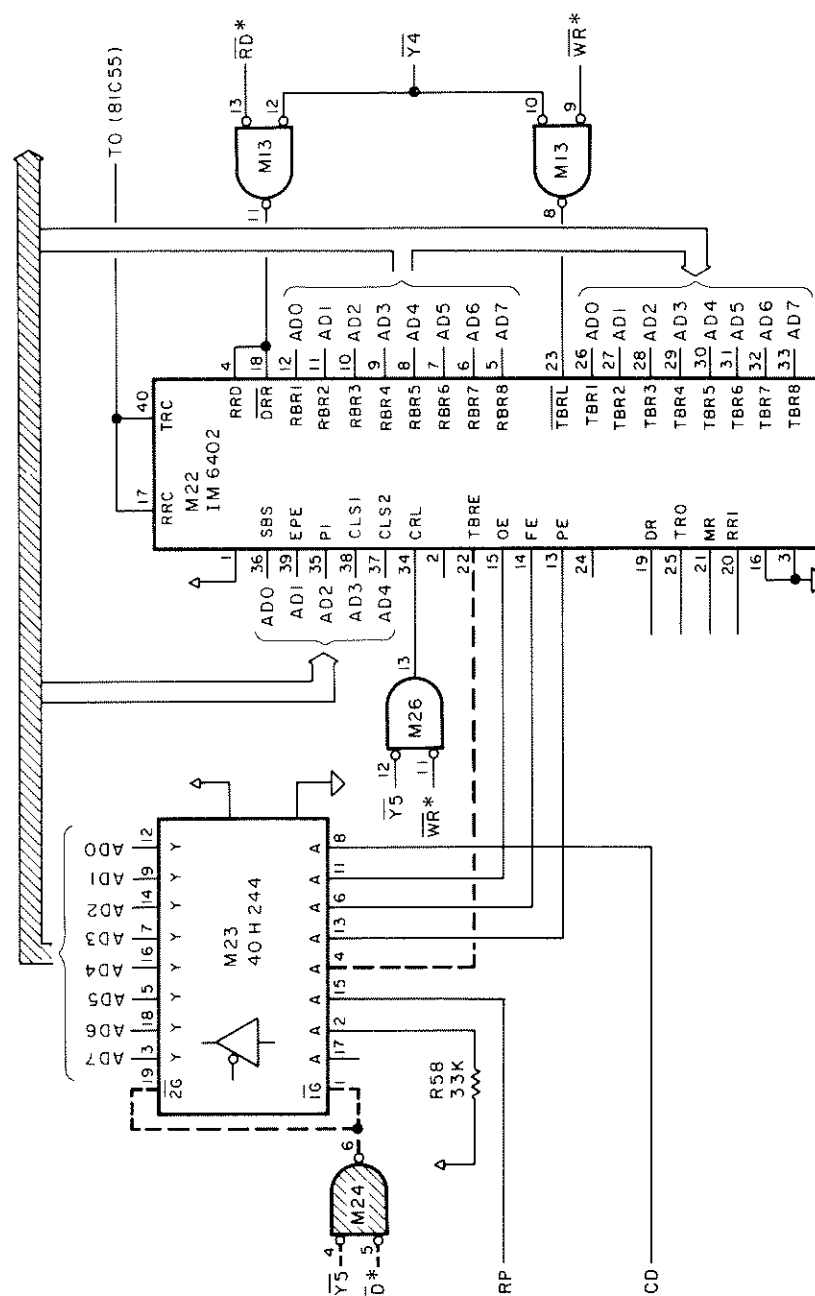

Figure 7.4a. UART data transmission
Before sending a character by way of the UART, the CPU must confirm that any character in the TBR has already been received by the TR. The CPU does this by inspecting the condition of bit 4 of input port D8 (or D0 decimal 208 or 216). That bit carries the UART signal TBRE (transmitter buffer register empty) signal (see table 7.4). This is shown schematically in figure 7.4a.
Such errors are known as *overflow errors* (OE), *framing errors* (FE), and *parity errors* (PE), respectively. These signals are made available to the CPU at input port D8 (or D0 decimal 208 or 216); the connection is shown in figure 7.4a. The various bits of the input port are shown in table 7.4. To obtain the UART error, the value returned at the port should be ANDed with 0E.